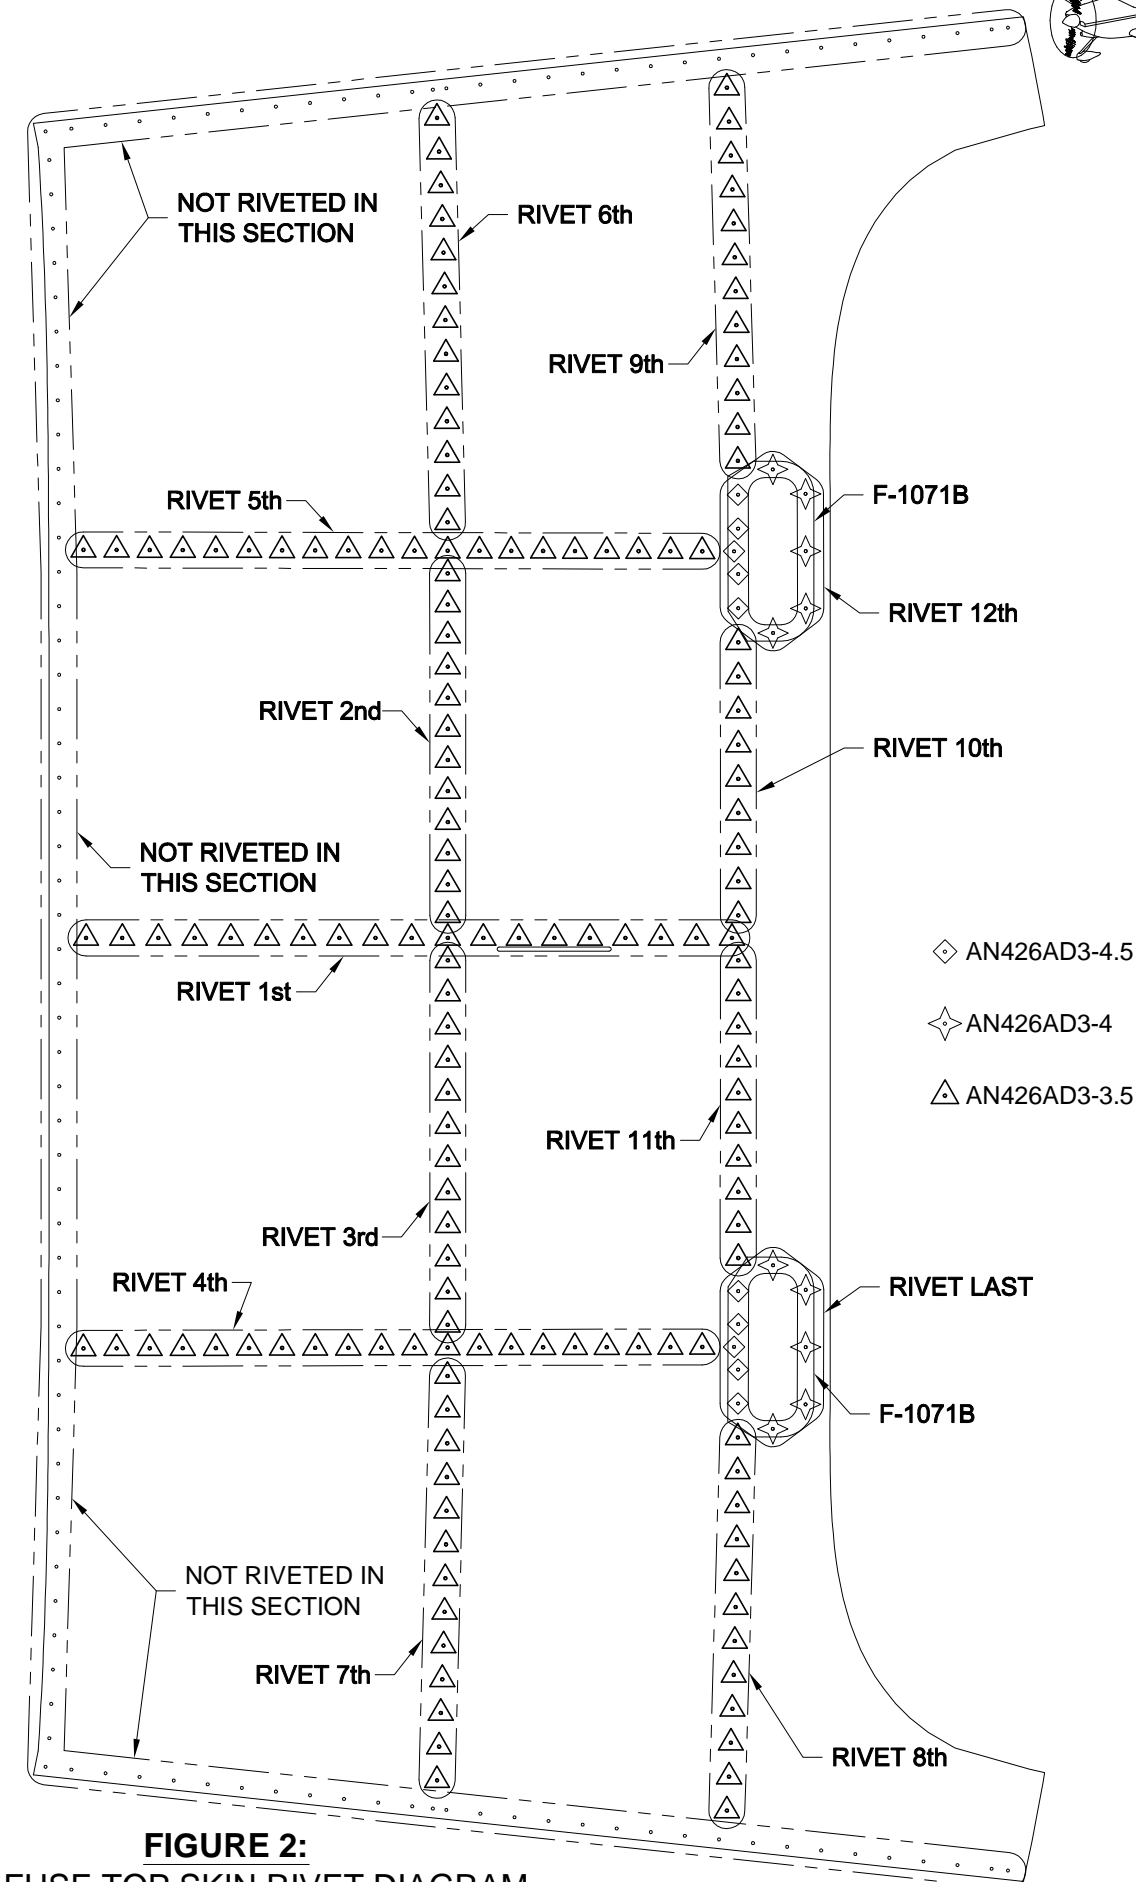

**FIGURE 1:**
Step 1: Rivet the F-1044 Fwd Fuselage Rib Subassembly and F-1083 Control Cable Bracket to the F-1068A Sub Panel Center as shown in Figure 1.
Step 2: Rivet the F-1068B-L Sub Panel Side and F-1045-L Fwd Fuselage Rib to the F-1068A Sub Panel Center as shown in Figure 1.
Rivet the F-1068B-R Sub Panel Side and F-1045-R Fwd Fuselage Rib to the sub panel center as shown in Figure 1.